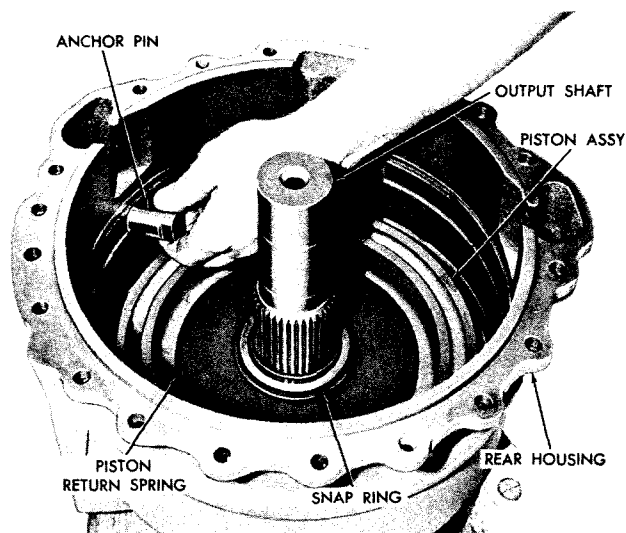

Fig. 7-25. Installing clutch anchor pin (-3 overdrive model)
(1) Position rear housing, rear downward, on blocks. Install the high-range clutch piston, with expanders and sealrings, flat side first, into the rear housing (fig. 7-25).
(2) Install the piston return spring, convex side upward, onto the piston. Depress the inner diameter of the spring and install the snapring which retains it (fig. 7-25).
(3) Install clutch anchor pin (fig. 7-25).
(4) Position the high-range clutch anchor assembly, pins upward, on a level surface. Beginning with an internal-splined clutch